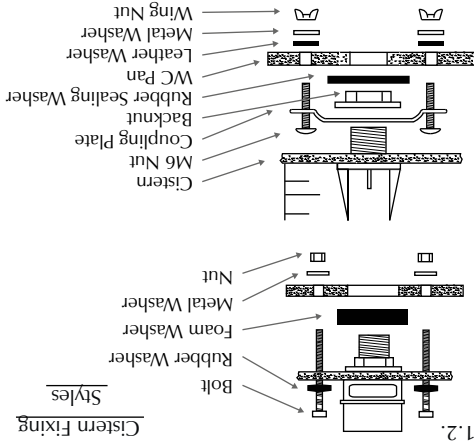

fig 1.2.
3) Insert the cistern bolts and locate the cistern correctly onto the pan as shown in fig 1.2.